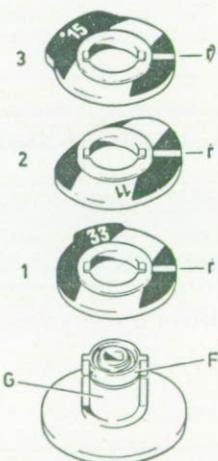

Fig. 62
- Place the cam fixing knob in such a way that its bars coincide with those of the cam-holder bushing « G » (fig. 62).